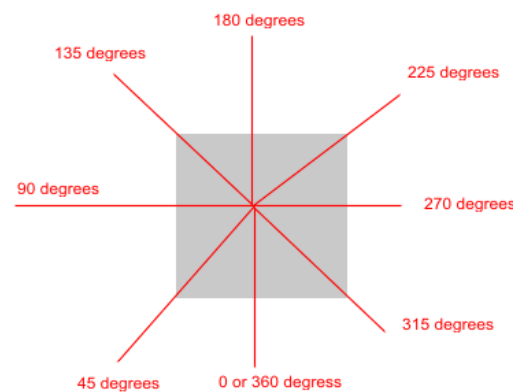

Fig 8: The force angle directions
- **Force Angle :** You can enter a value between 0-359 degrees (Fig 8).